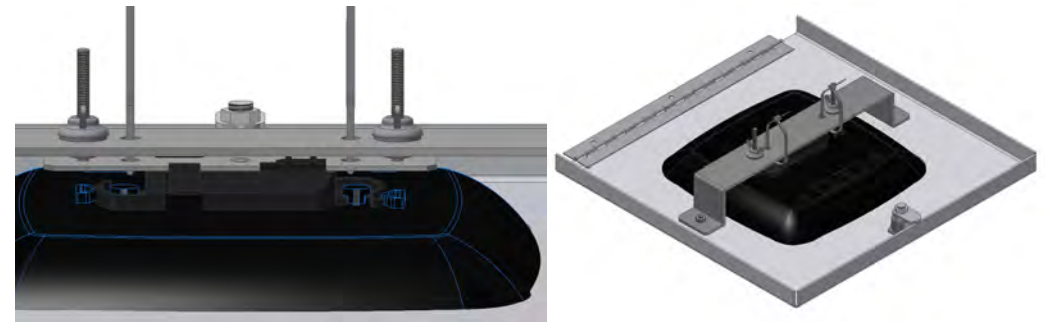

Figure 4 - Attaching Wire Ties
Step 5 – For added security, attach wire ties to the two inner holes of the bracket and the t-bar mount. Make sure securely fasten the wire ties in place (Figure 4).